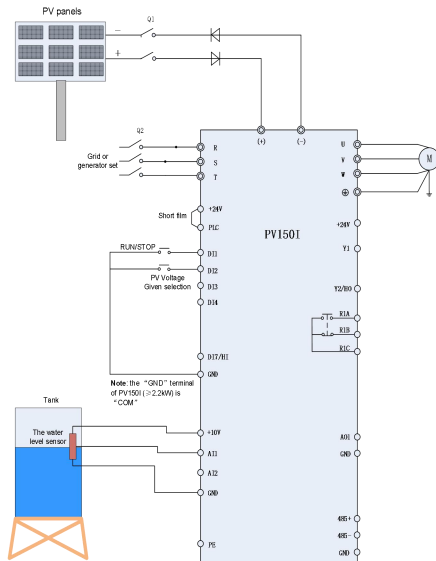

Figure 2-4(d) PV150I
1. Wirings as Figure2-3&Figure2-4 system wiring drawings according to inverters power, check and confirm the connections to be correct.